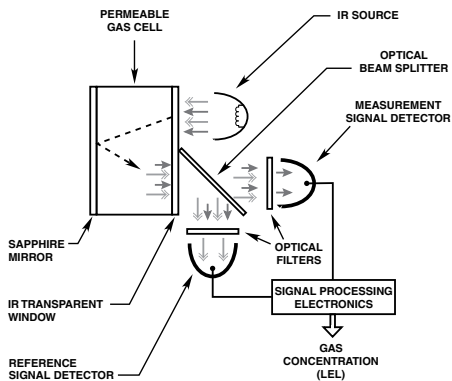

Figure 1—Measurement Scheme for Infrared Gas Detector
Flammable hydrocarbon gases diffuse through the weather baffle assembly into the internal measurement chamber, which is illuminated by an infrared (IR) source. As the IR passes through the gas within the chamber, certain IR wavelengths are absorbed by the gas, while other IR wavelengths are not. The amount of IR absorption is determined by the concentration of the hydrocarbon gas. A pair of optical detectors and associated electronics measure the absorption. The change in intensity of the absorbed light (active signal) is measured relative to the intensity of light at a non-absorbed wavelength (reference signal). See Figure 1. The microprocessor computes the gas concentration and converts the value into a 4–20 milliampere current output or digital process variable signal, which is then communicated to external control and annunciation systems.